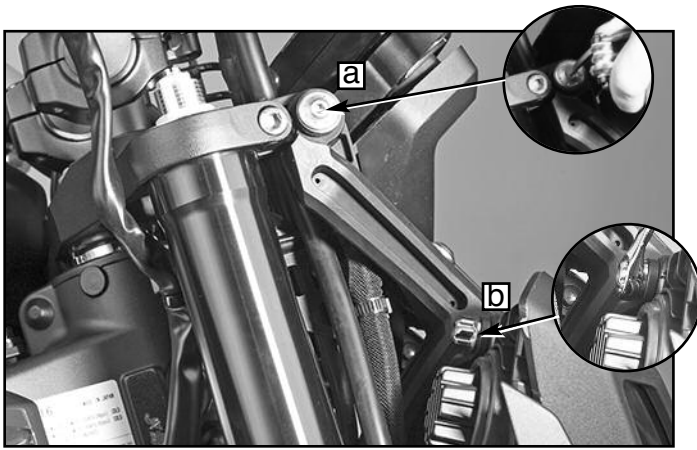

Figure 1
1. On the right side of the motorcycle, remove the upper hex screw (a) (**5mm Hex Key**) and lower nut (b) (**12mm open end wrench**) from the side of the headlight bracket. Hardware will be re-used. **Figure 1**